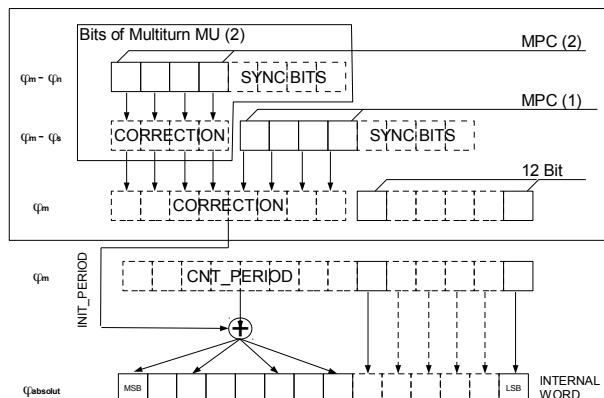

Figure 43: Principle of the synchronisation of a 3-track nonius system using 2 iC-MU without further multturn data
Figure 43 shows the principle of the synchronisation of the data from iC-MU (2) to iC-MU (1).